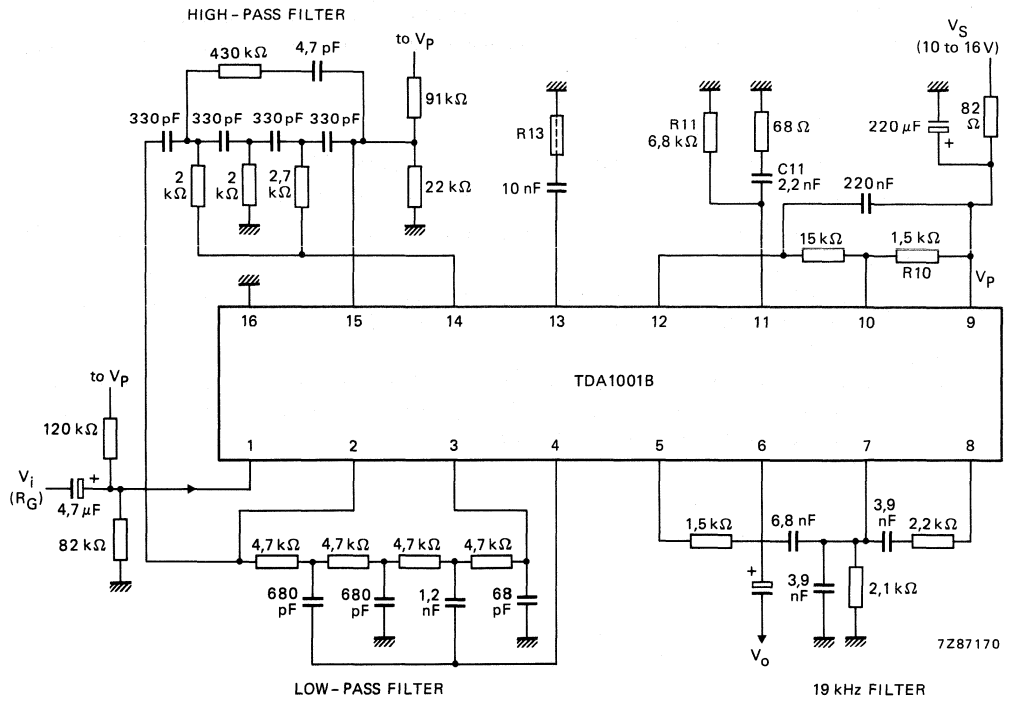

Fig. 4 Application circuit diagram.
A.F. output power (see Fig. 4) at $d_{tot} = 10\%$;